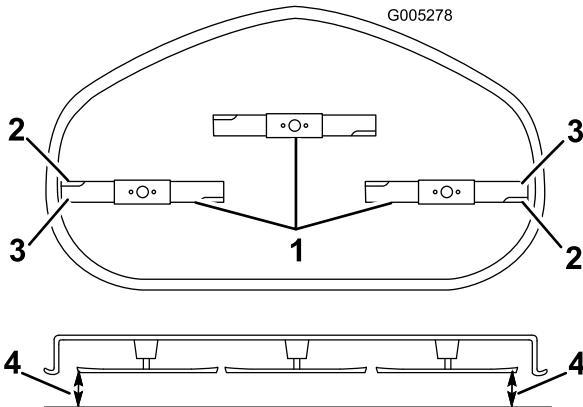

Figure 54
4. Carefully rotate the blades so that they are all side to side (Figure 53 and Figure 54).
- 5. Measure between the outside cutting edges and the flat surface (Figure 53 and Figure 54).